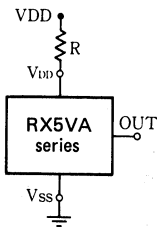

Fig. 27
1. Don't connect an impedance between VDD and V_{DD} of the RX5VAXXB or the RX5VAXXC as shown in Fig. 27, or oscillation may happen.